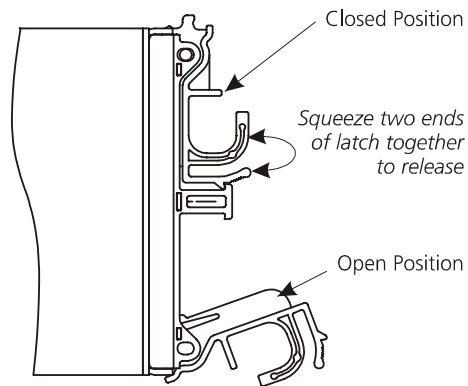

Figure 2–13 RAID Module Latch Operation
- 2 With the latch in the open position, see **Figure 2–13**, slide the RAID module into the enclosure until the latch engages automatically.
- 3 Cam the module home by manually closing the latches, see Figure 2–14.